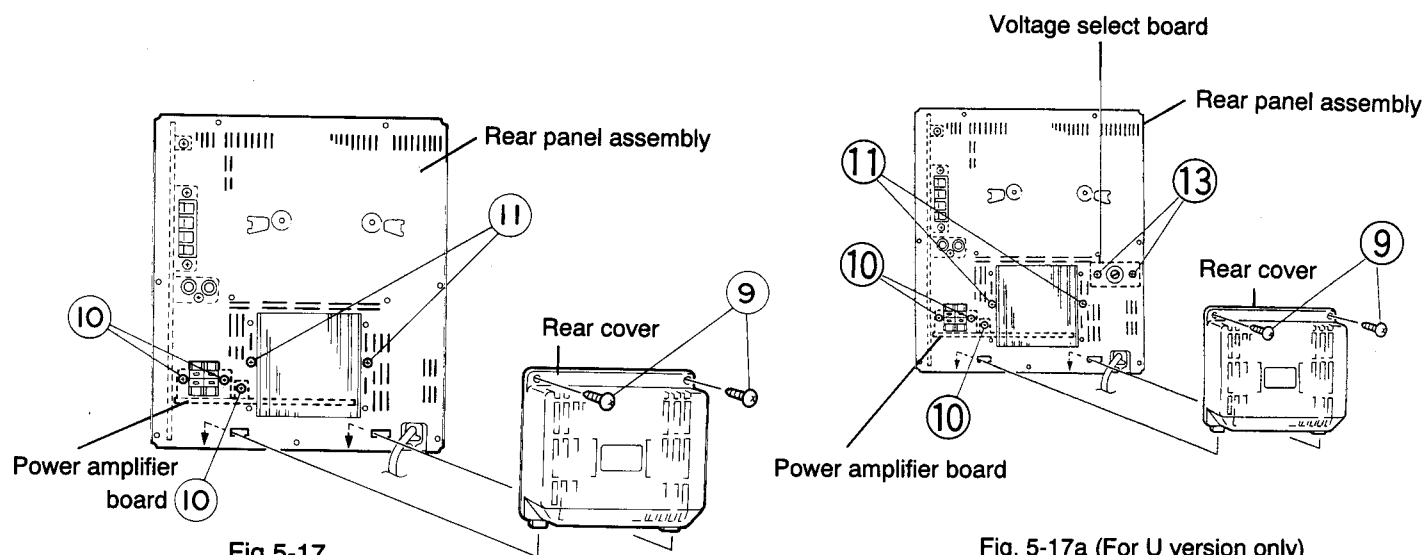

Fig. 5-17
6. Remove the two screws ⑨ fastening the rear cover to the rear panel assembly and then remove the rear cover. (See Fig. 5-17)
7. Remove the five screws (⑩ x 3, ⑪ x 2) fastening the power amplifier board to the rear panel assembly. (See Fig. 5-17)